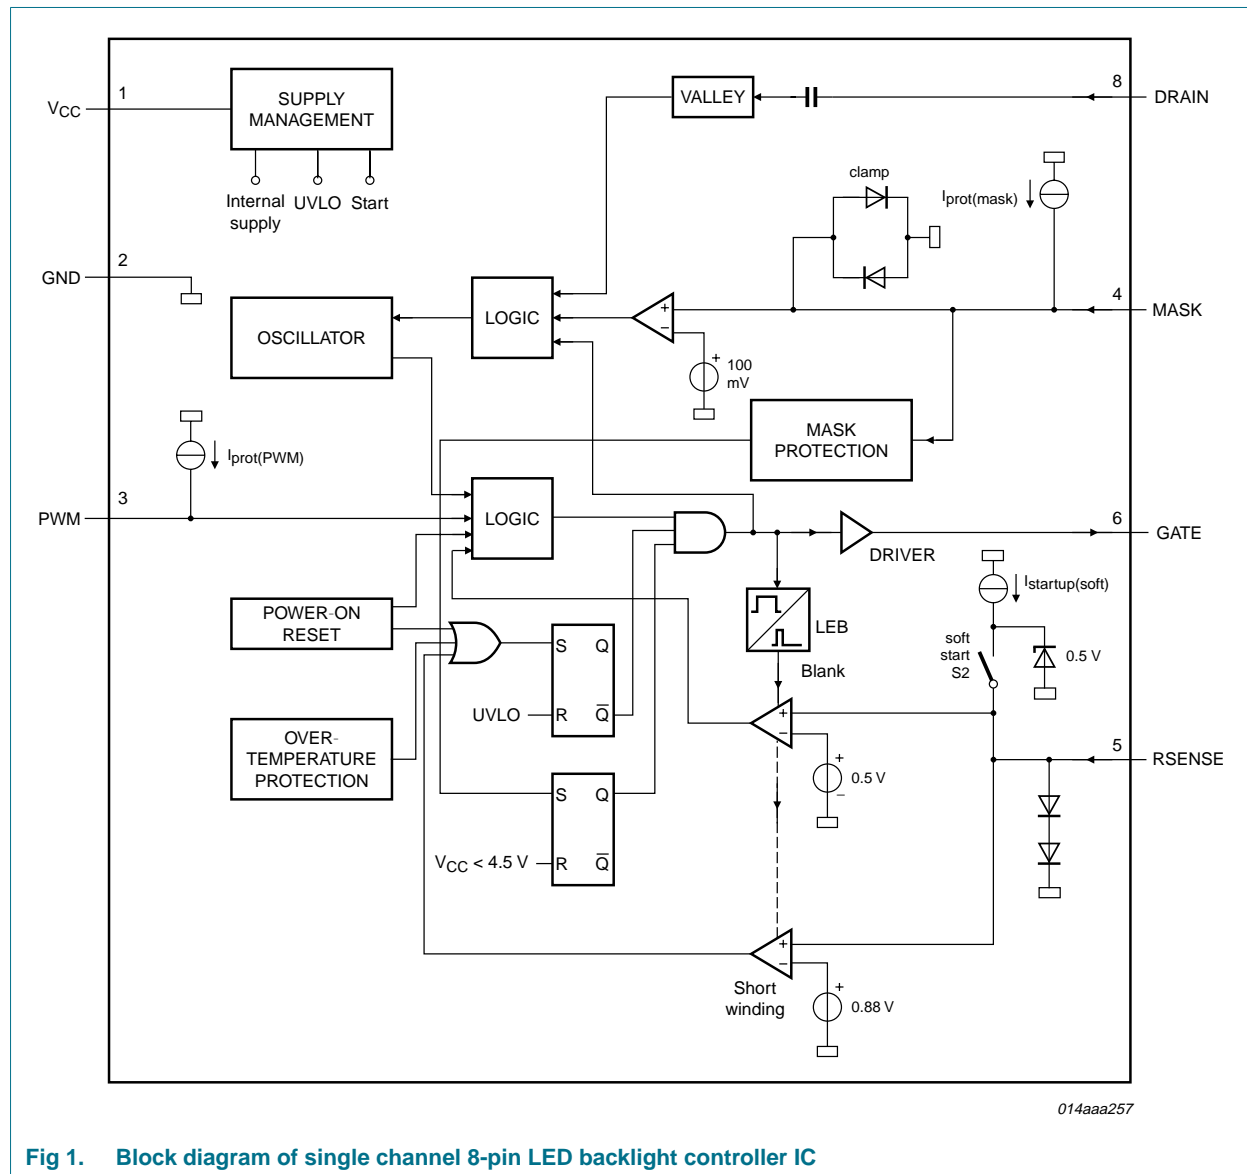

Fig 1. Block diagram of single channel 8-pin LED backlight controller IC
- The UBA3070 is typically suited as a high voltage LED backlighting application in LCD televisions and monitors (See Figure 1)